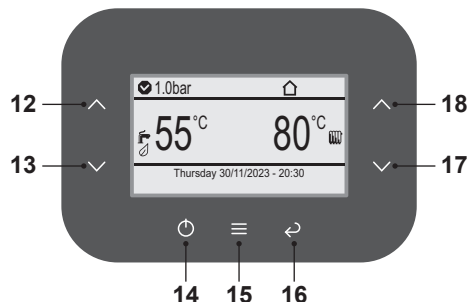
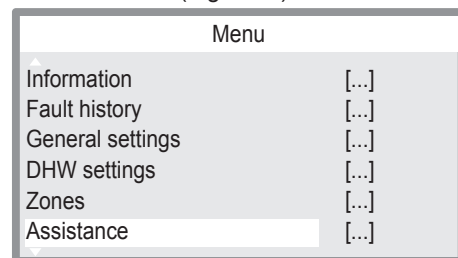

Fig. 8.28
Fig. 8.30
- Press key 15 (Fig. 8.28) to go to the main menu (Fig. 8.29).
- Press key 12 or 13 (Fig. 8.28) to select the desired menu (Fig. 8.30).
- Press key 15 (Fig. 8.28) to access the se-
- Press key 12 or 13 (Fig. 8.28) to select the desired menu from those available (Fig. 8.32).
- Press key 15 (Fig. 8.28) again to highlight the value to be changed.
- Press key 15 (Fig. 8.28) to confirm the change or key 16 to exit without changing the value (return to previous level).